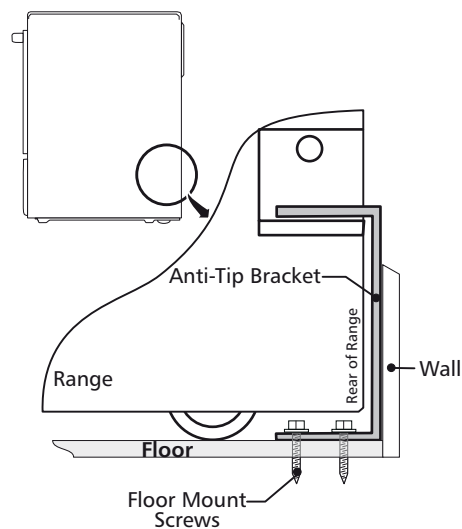

Figure 12
4. Remove template and place bracket on floor. Line up holes in bracket with marks on floor and attach with 4 screws provided. Bracket must be secured to solid floor (Figure 12). If attaching to concrete floor, first drill 3/16" (0,48 cm) dia. pilot holes using masonry drill bit.